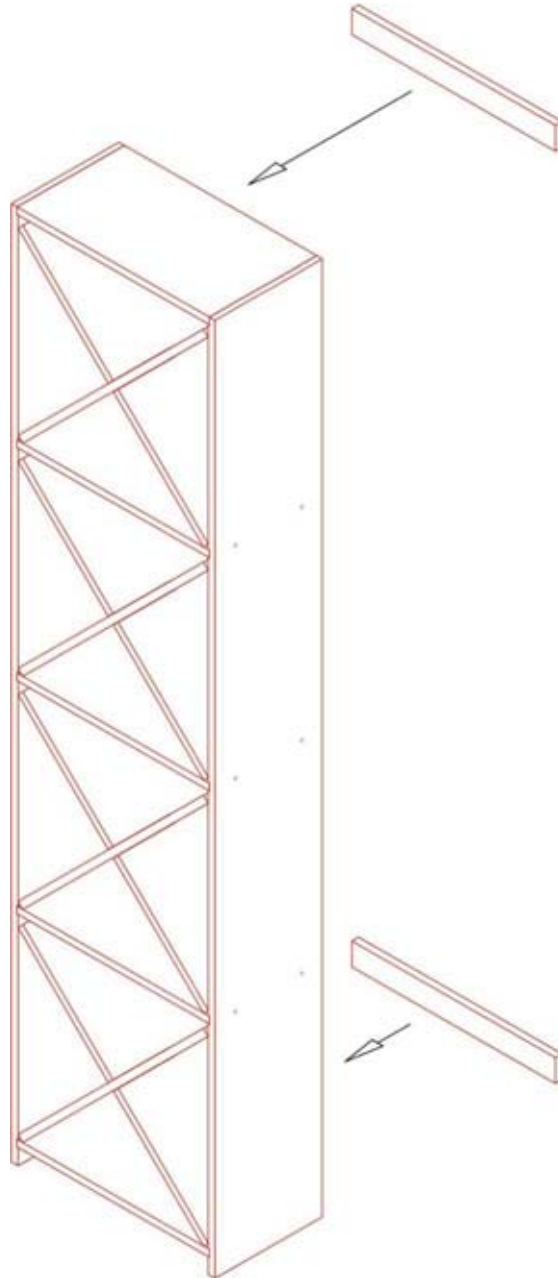

Figure 7
8. Locate your 2 nailers. Attach one nailer to the upper back of the diamond cube flush to the top using 4 #8 square head screws provided (**Figure 7**).
9. Repeating step 8, attach the second nailer to the lower back of the diamond cube flush to the bottom of the right and left panels (**Figure 7**).